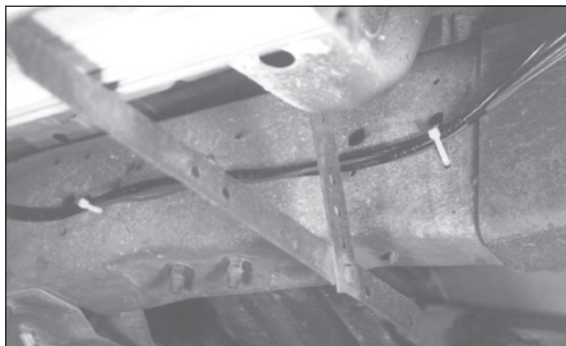

fig. 19
2. Route the harness (A) along the frame rail. Keep away from heat (exhaust system, etc.) and moving chassis components. Secure harness to frame with plastic tie straps (M) provided (Fig. 19).